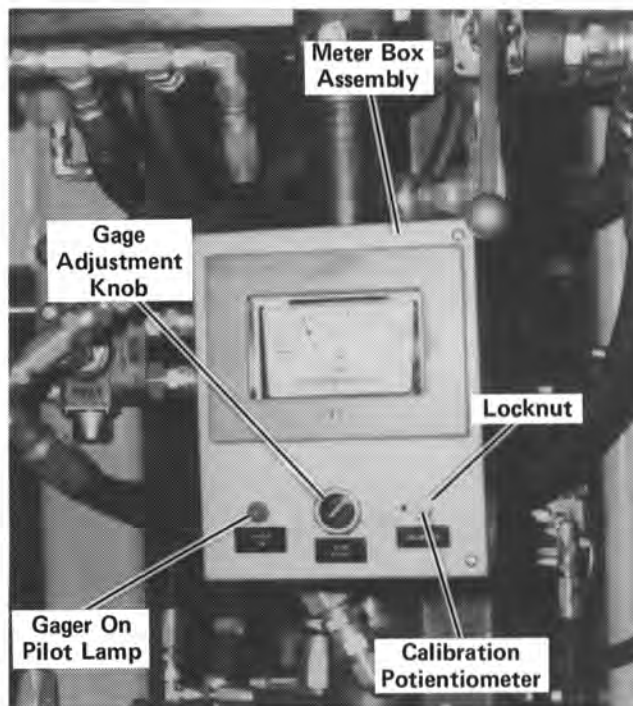

Figure 44
3. Measure the distance between the inboard side of each rail, $5/8$ " down from the top of the rail. Loosen the locknut on the calibration potentiometer and set at the mid position. See Figure 44.
7. To vary the gage wider than required, during the gaging sequence, with the center gager cylinder extended turn the large adjustment knob on the meter box until the needle indicates the required variation. To vary the gage narrower requires that the gager sequence be recycled and started from the initial operations after the meter has been adjusted. See Figure 44.